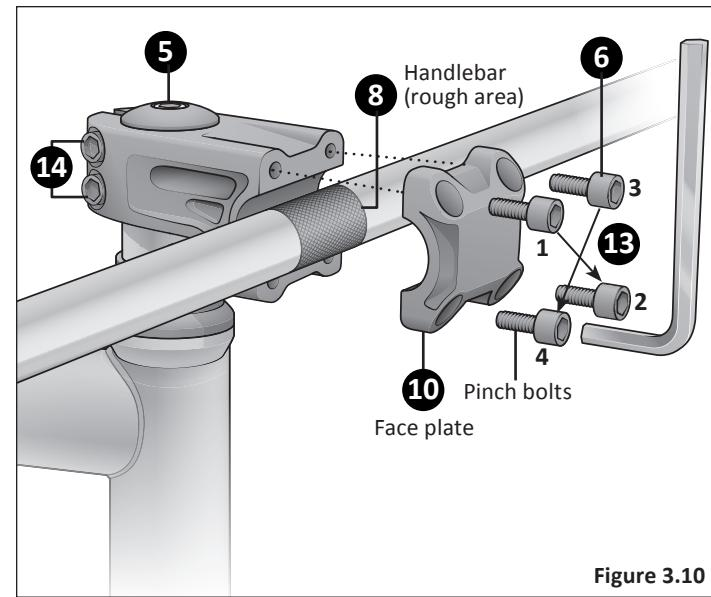

Figure 3.10
- 5 Place the top cap onto the top of the steerer tube. Insert and tighten the top cap bolt until it is snug. ***Do not tighten completely at this time.*** **Figure 3.10**
- 13 Finish tightening the pinch bolts and stem cap bolt. **Figure 3.10**